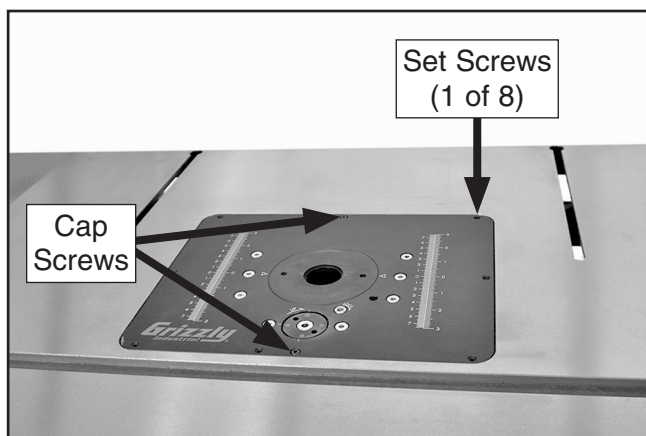

Figure 18. Router lift assembly positioned inside table opening.
8. Position router lift assembly inside table opening (see **Figure 18**) so mounting plate is flush with table top.
10. Adjust set screws (see **Figure 18**) so that ends of straightedge lay flat on table surface at all positions of pattern above.
11. Once mounting plate is even with table surface, secure position with (2) M4-.7 x 16 cap screws shown in **Figure 18**.